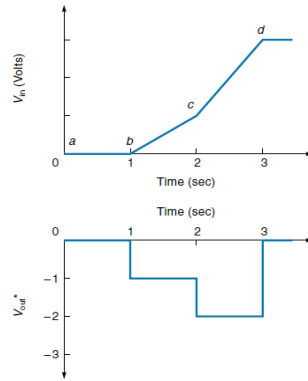

Figure 7.16 Voltage waveforms of a differentiator. ($V_{out} = -V_{in}$ this case because $RC = 1$.)
- The differentiator concept is illustrated in the Figure 7.16 (which assumes $RC = 1$).